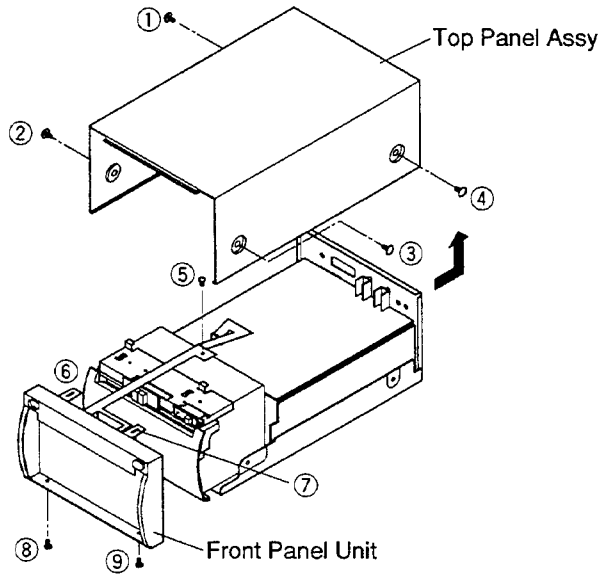
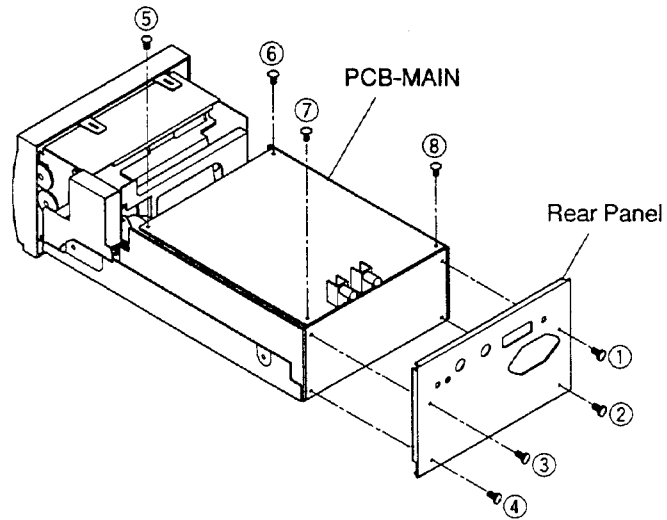

Fig. 1
Fig. 3
1. Remove four screws (①, ②, ③ and ④) securing the Top Panel Assy shown in Fig. 1 and remove the Top Panel Assy in the direction of the arrow.
1. Remove the Top Panel Assy. (Fig. 1)
2. Disconnect the Connector (SW) shown in Fig. 1.
3. Remove one screw (⑤) securing the Flat Cable shown in Fig.1.
4. Release two catches (⑥ and ⑦) on the Front Panel Unit shown in Fig. 1.
5. Remove two screws (⑧ and ⑨) securing the Front Panel Unit shown in Fig. 1 and remove the Front Panel Unit.
3. Remove four screws (①, ②, ③ and ④) securing the Rear Panel shown in Fig. 3 and remove the Rear Panel.
4. Remove four screws (⑤, ⑥, ⑦ and ⑧) securing the PCB-MAIN shown in Fig. 3 and remove the PCB-MAIN.
1. Remove the Top Panel Assy, the Front Panel Unit, the Rear Panel and the PCB-MAIN. (Fig. 1, Fig. 3)